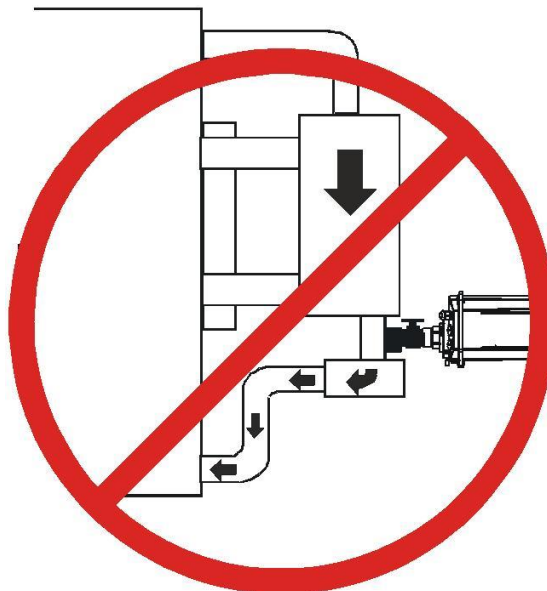

Figure 2-6: Do Not Install the Hydran M2-X on the Inlet Side of the Radiator Pump
6. Do not install the Hydran M2-X on the inlet side of the radiator pump (see Figure 2-6).